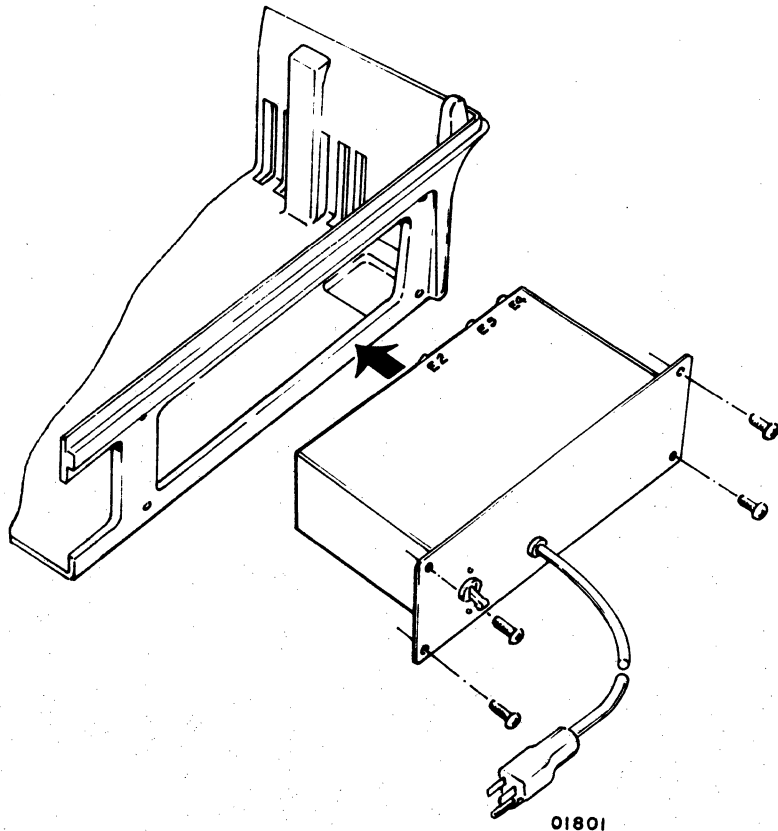

Figure CRT5. AC Entry Panel Removal
To remove ac power panel assembly, refer to figures CRT5 and CRT61 and perform the following:
- 9) Fasten four screws (figure CRT5).